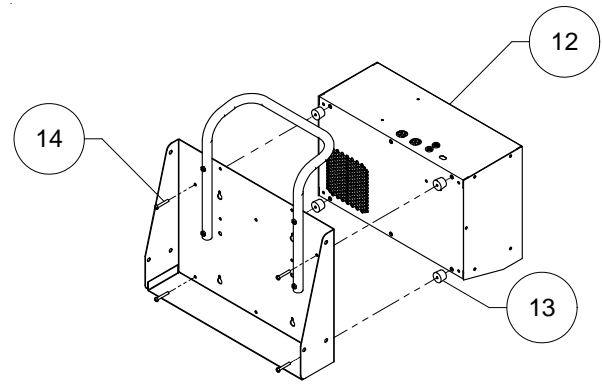

Figure 3
4. Attach the B.E.S.T. control unit (12) to the top plate (8). Place the feet (13) between top plate and control unit. Flat side of foot is placed against top plate. Insert the #10x1 1/4" screws (14) through top plate and feet and thread into the threaded fasteners in the four corners of the control unit base. See Figure 3.